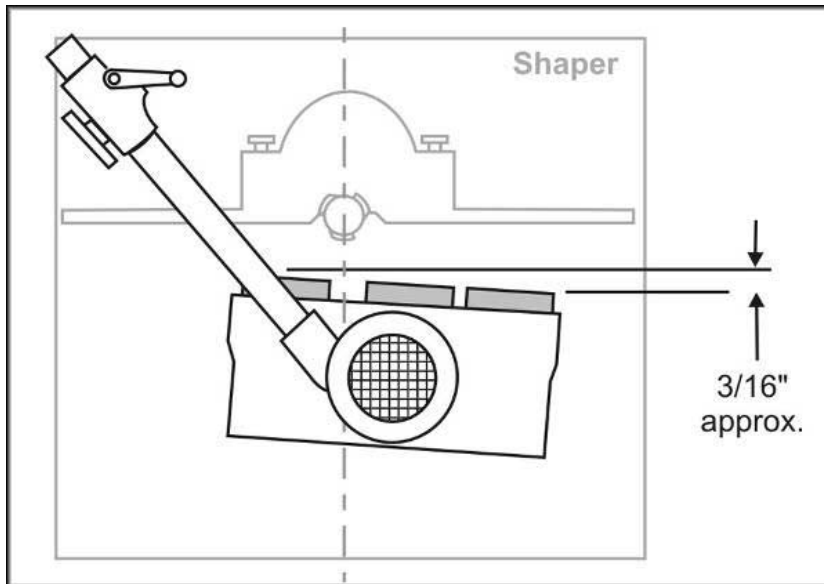

Figure 14 - Stock Feeder Position for Horizontal Shaping
9. To ensure that the workpiece is held firmly against the fence, set the stock feeder at a slight angle toward the fence in the direction of feed. In other words, the outfeed roller should be approximately 3/16" to 1/4" closer to the fence than the infeed roller. See Figure 14.